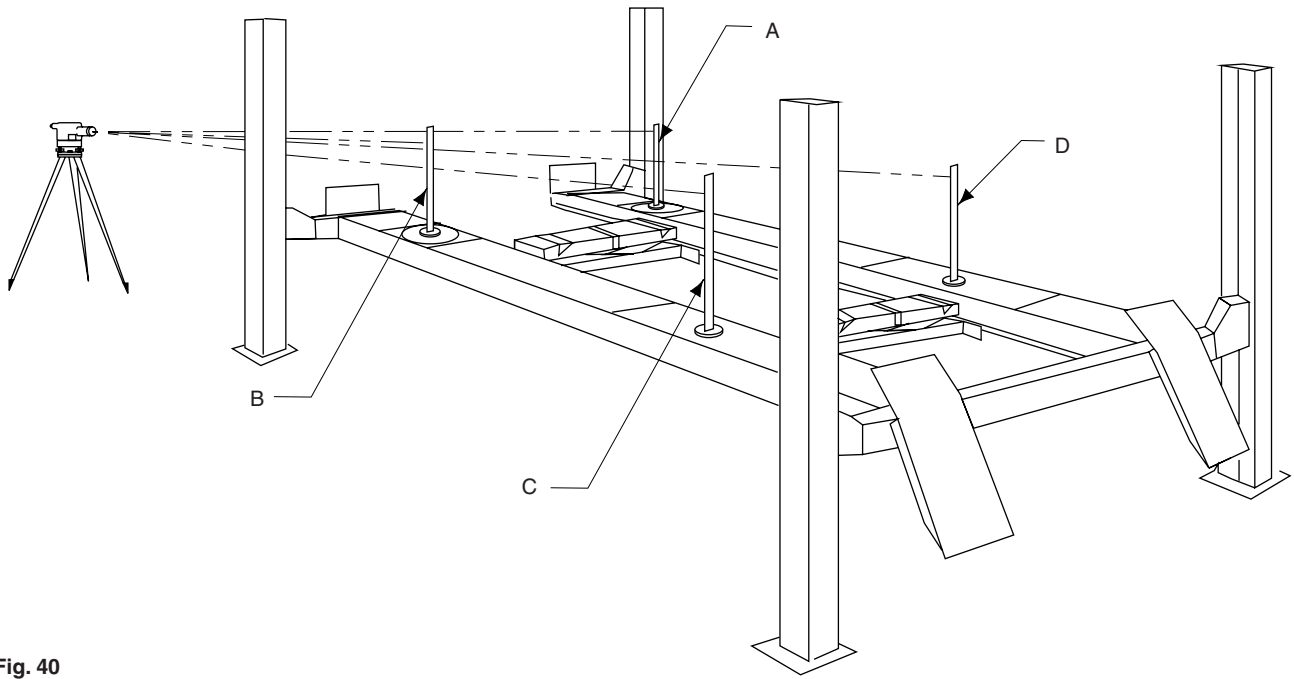
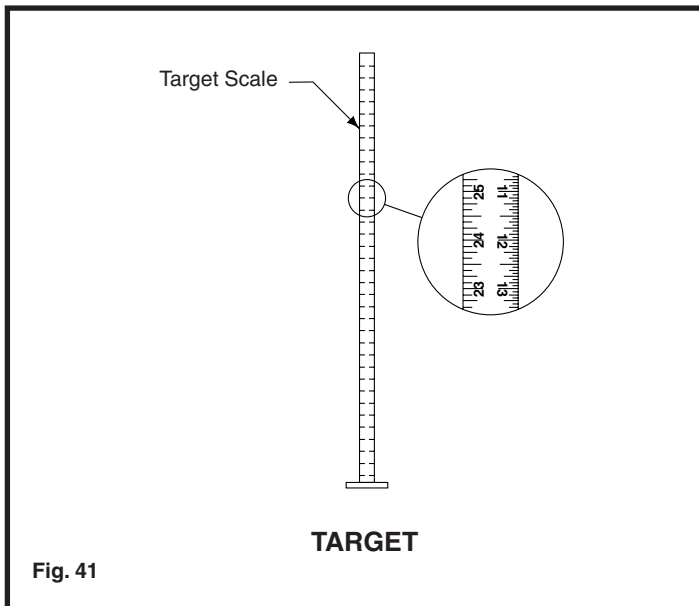

Fig. 40
Fig. 41
- D. Beginning with "A" position, Fig. 40, sight the Level to the target and mark the number or the graduation on the inch scale of the target that aligns to the crosshairs of the Level, Fig. 41.
- E. Next, move the target and place it on the turning radius gauge at point "B", Fig. 40.
- G. Adjust the adjustment nut on the locking latch plate adjustment stud at the top of the column at "B", Fig. 40, by loosening the jam nut and turning adjustment nut until the crosshairs of Level align to reference mark on the target scale.
- I. Always recheck the level of the runways to be sure all four locking latch plates are adjusted correctly. Start at point "A" and recheck level at points "B", "C", and "D", Fig. 40. Readjust, if needed. The runways are now level at all four points.